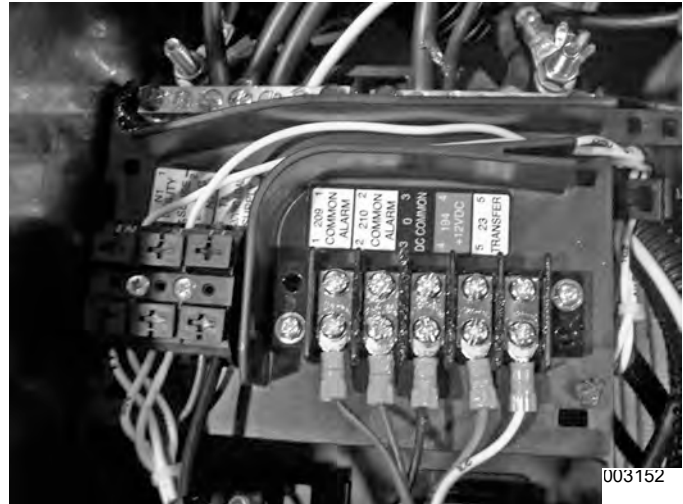

Figure 5-53.
21. **Remove Controls Cover:** See Figure 5-53. Use a Torx T-27 socket or 5/32" Hex Allen socket to remove two bolts and ground washer from the controls cover. Remove the controls cover.
22. **Remove Stator Wires:** See Figure 5-53. Remove all connectors from the controller, remove all wires the common neutral and ground wires from landing lugs, and remove wires from main breakers.